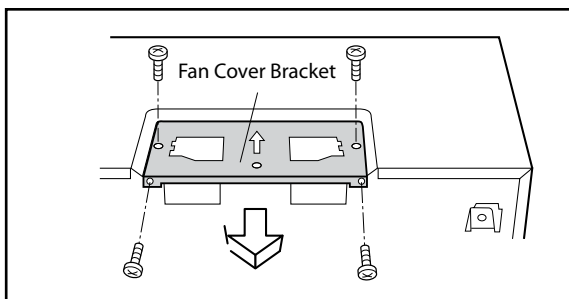

Figure 12
1. Remove and save the 4 screws from the Fan Cover Bracket. Remove Fan Cover Bracket by sliding it in the opposite direction of the arrow on the Fan Cover Bracket as shown in Figure 12.